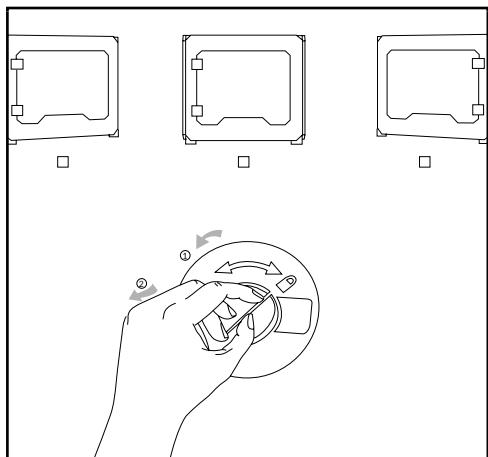
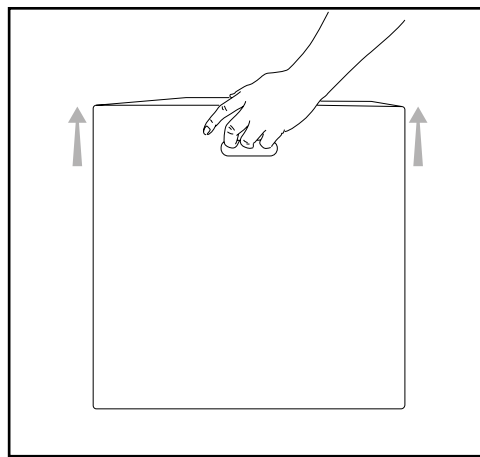

Figure 2.1 Undo the round plastic tabs on both sides
Figure 2.2 Lift off the top cover
- 1 The box is made from two pieces of cardboard: a tray-shaped piece on the bottom and a printed cover on top. To remove the cover, first undo the two round plastic tabs connecting it to the bottom piece (fig. 2.1). Then lift the cover using the handles near the top (fig. 2.2); it should lift off easily.